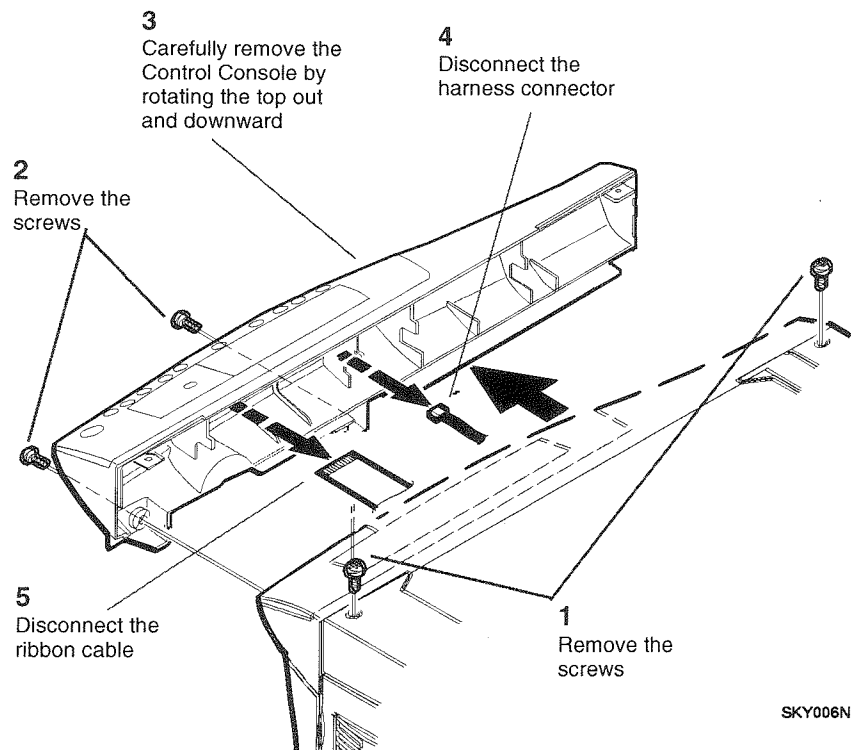

Figure 1 Removing the Control Console
2. ( Figure 1): Remove the Control Console.